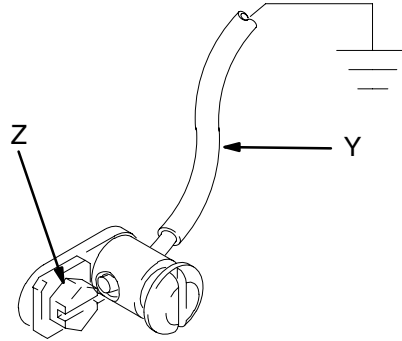

Fig. 1
1. *King Pumps:* Use a ground wire and clamp as shown in Fig. 1. Remove the ground screw (Z) and insert through eye of ring terminal at the end of ground wire (Y). Fasten ground screw back onto pump and tighten securely. Connect the other end of the wire to a true earth ground. Order Part No. 222011 Ground Wire and Clamp.